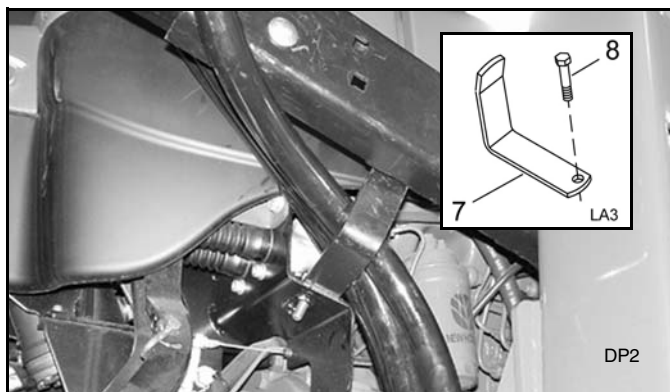

Figure 15. Hose Guide Installed
1. Attach hose guide (7) to the outer hole on the bracket in front to the brake peddle.
2. Secure into place using cap screw (8) as shown in Figure 15. Torque to 30 lbs.-ft. using a 16mm wrench.
1. Attach 90° end of hoses (2) to the IN, OUT, and PBY ports on the control valve.
2. Route hoses over hose guide (as shown in Figure 15), under right side of platform, and over right rear axle.